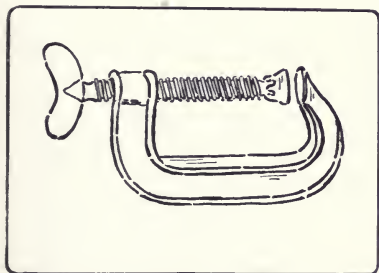

Fig. 177. Iron Handscrew, (Carriage-Maker's Clamp).
*Iron Handscrews*, also called C clamps and carriage-makers' clamps, Fig. 177, are useful in certain kinds of work, as in gluing in special places and in wood-carving. All iron clamps need blocks of soft wood to be placed between them and the finished work.